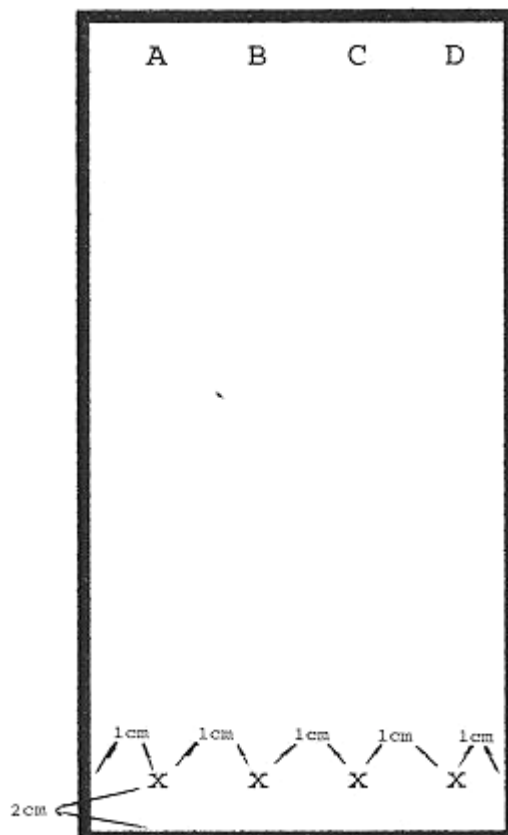

Figure 1
6. Carefully mark your TLC plate as instructed by your teacher. (See figure 1).